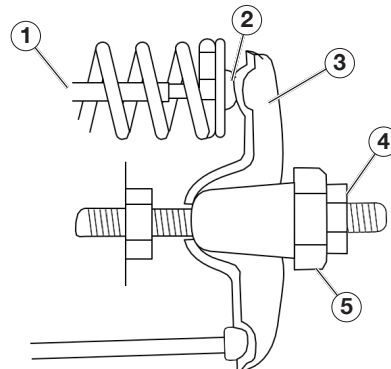

Figure 22
5. Insert a feeler gauge between the rocker arm and the push rod and check for clearance (see *Figure 22*). See Table 2 for valve lash specifications